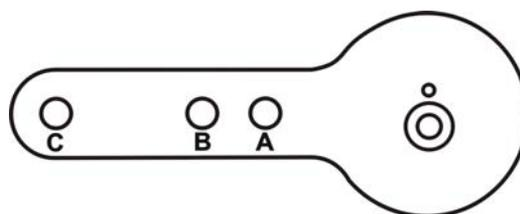

Figure 16 Lever for Model 87/88 Multispring Actuator
3. Select mounting hole A, B, C or D for the stroke of the valve. For example, hole B is shown in Figure 16 on page 45 for a size 10 actuator with 1.0" stroke. Unless otherwise specified, the SVI II AP mounting assumes that the actuator is in the normal upright position. The mounting hole in the slotted opening of the mounting bracket must be left when facing the actuator, with the actuator in the upright position.
6. Attach the right hand threaded rod end to the SVI II AP lever using a 1/4 - 20 x 1" cap screw and nut as shown. The lever hole position to be used depends upon the specific valve stroke. Refer to Figure 16 on page 45 and the Reciprocating Valve Linkage Selection, Table 6 on page 346.